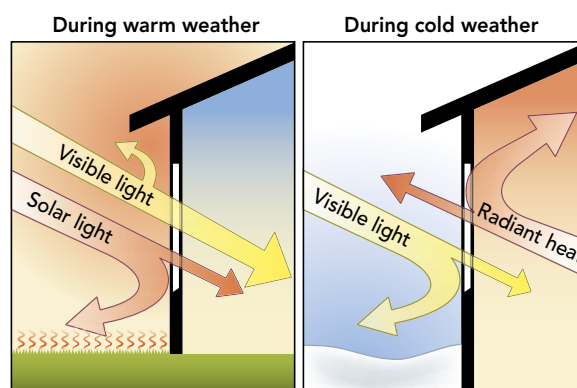

Figure 1. Function of a Low-e window.
TCO-coated glass has found many applications in the last decade and has created a multibillion dollar market. The main applications are energy saving, low scattering (Low-e) coatings for architectural windows (Fig. 1), and high scattering TCO coating on glass for a wide variety of photovoltaic (PV) thin film modules and TCO-coated glass for display applications. The worldwide expected demand for TCO glass by 2012 is greater than 500 million m² per year, which represents a market opportunity for TCO-coated glass well above \$10B per year.